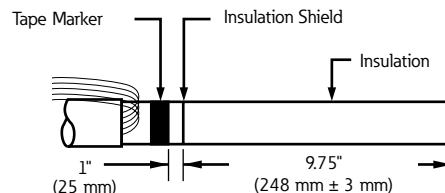

Figure 16. Line illustration of cable stripback.
- Remove insulation shield length 9.75" (248 mm) from end of cable. Refer to Figure 16.
- Measure 1" (25 mm) from end of insulation shield. Refer to Figure 16.